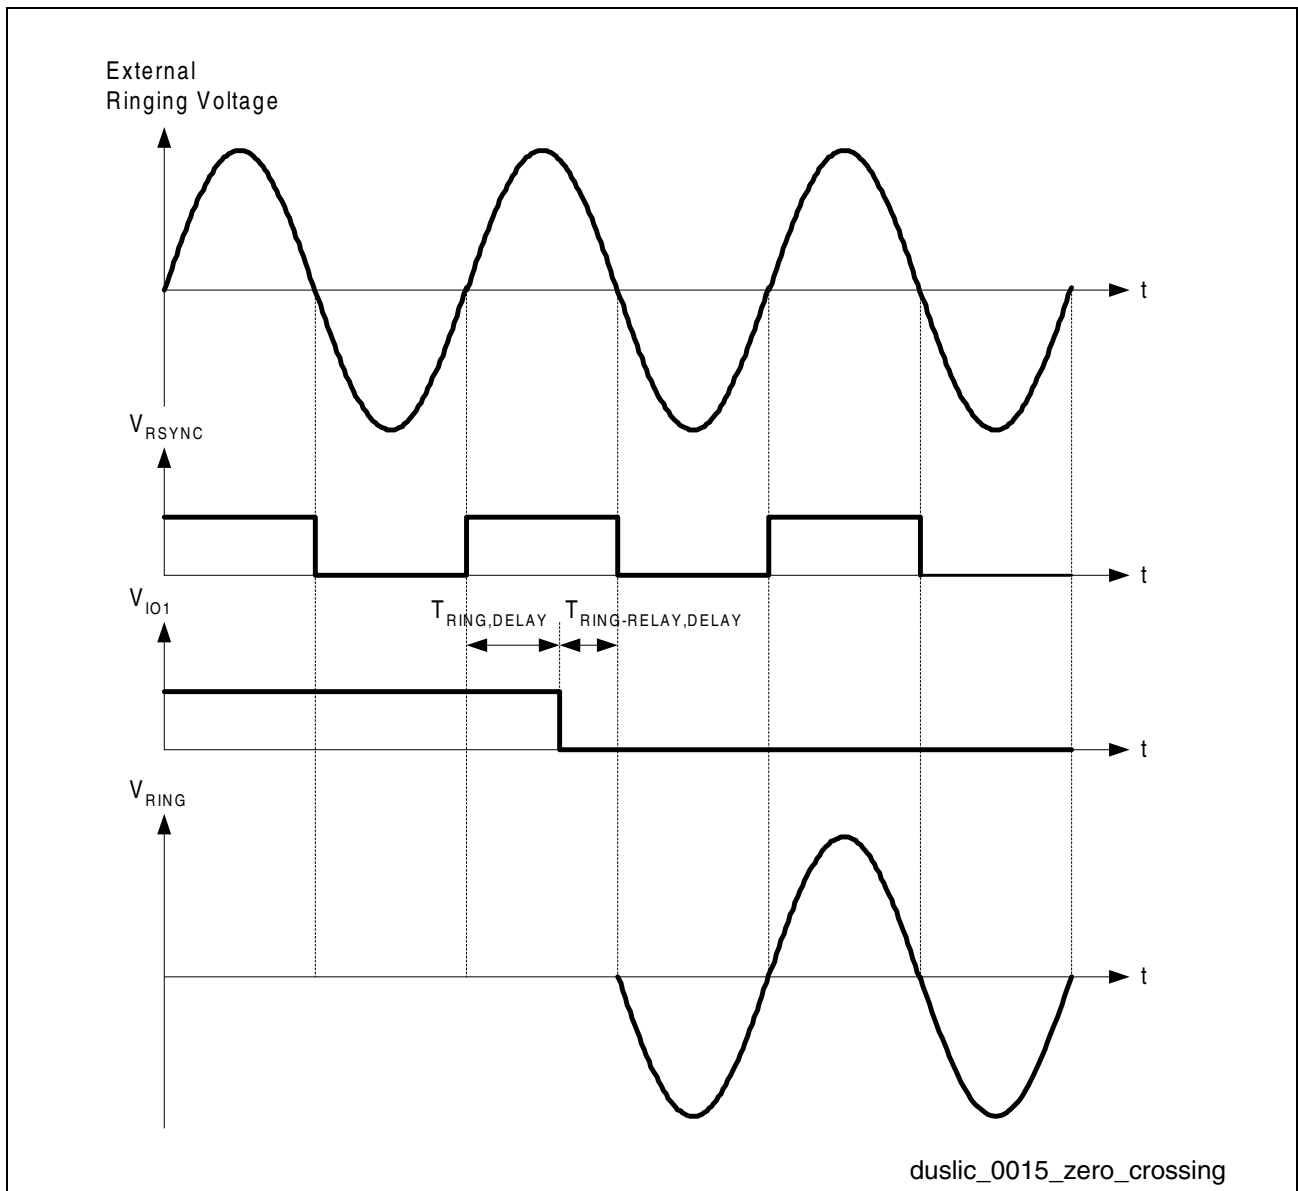

Figure 23 External Ringing Zero Crossing Synchronization
- A TTL compatible zero crossing signal must be applied to the RSYNC pin of the *SLICOFI-2x* (see Figure 23).
A ring generator delay $T_{\text{RING,DELAY}}$ (see DuSLICOS control parameters 2/4) can be programmed to consider the ring relay delay $T_{\text{RING-RELAY,DELAY}}$ as shown in Figure 23.